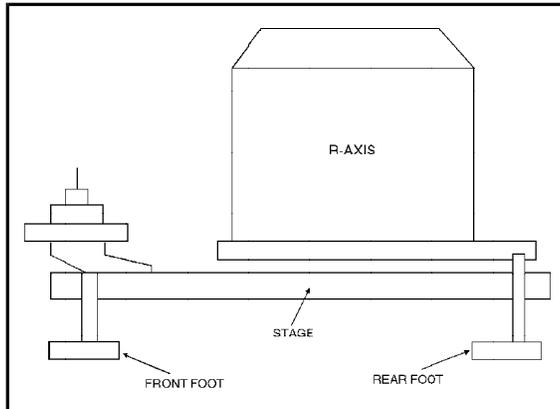

Figure 2-27. Non- 2θ -stage height adjustments.
- 26) The height and tilt adjustments are made by turning the two feet at the back of the detector and the one foot in front (Figures 2-27 and 2-28). Both back feet must be adjusted equally. One complete revolution for all three feet is equal to approximately 10 pixels.